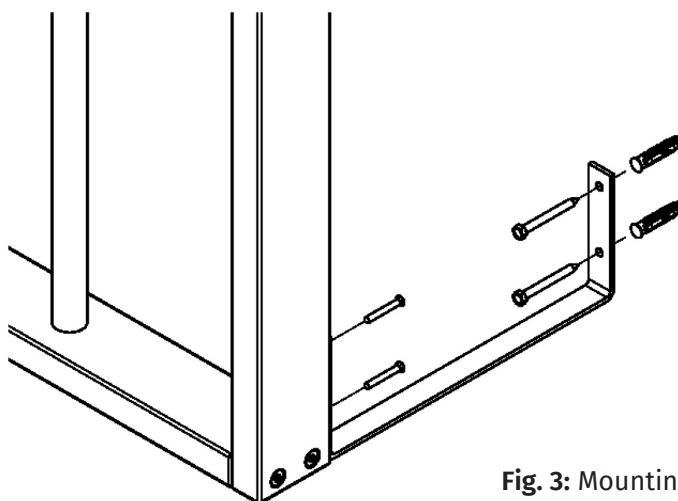

Fig. 3: Mounting brackets for underfloor heating
Caution: In case of underfloor heating, omit the floor drillings, instead carry out the additional appropriate wall drillings ($\varnothing$ 12 mm) and screw the floor brackets (33) flush to the outer cheek of the fixed elements as shown in Fig. 3.